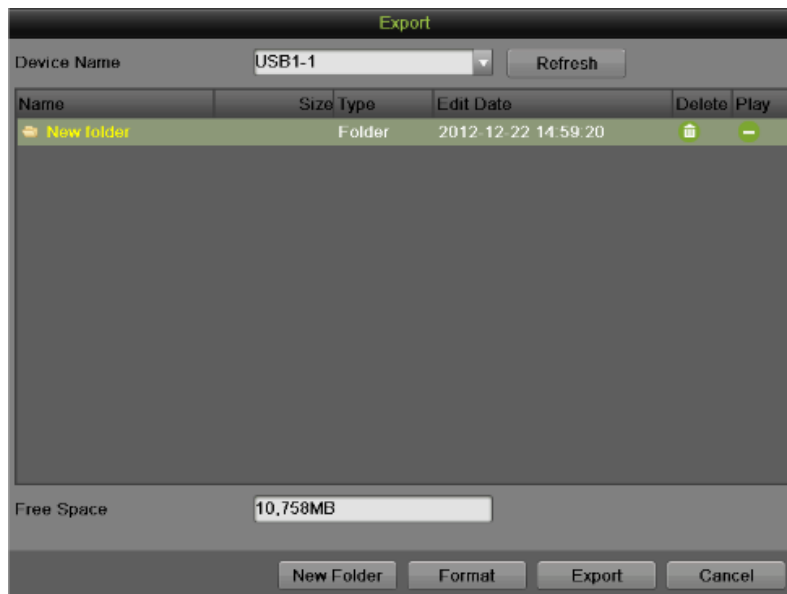

Figure 60 Files Backup Menu
4. Click the Export button; this will take you to the Export menu, as shown in Figure 60.